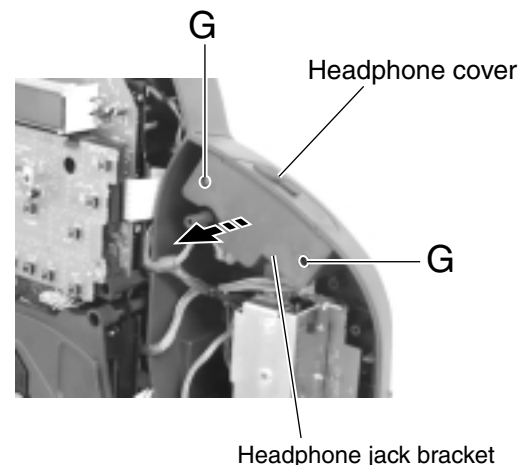

Fig.9
■ Removing the headphone jack board (See Fig.9 and 10)